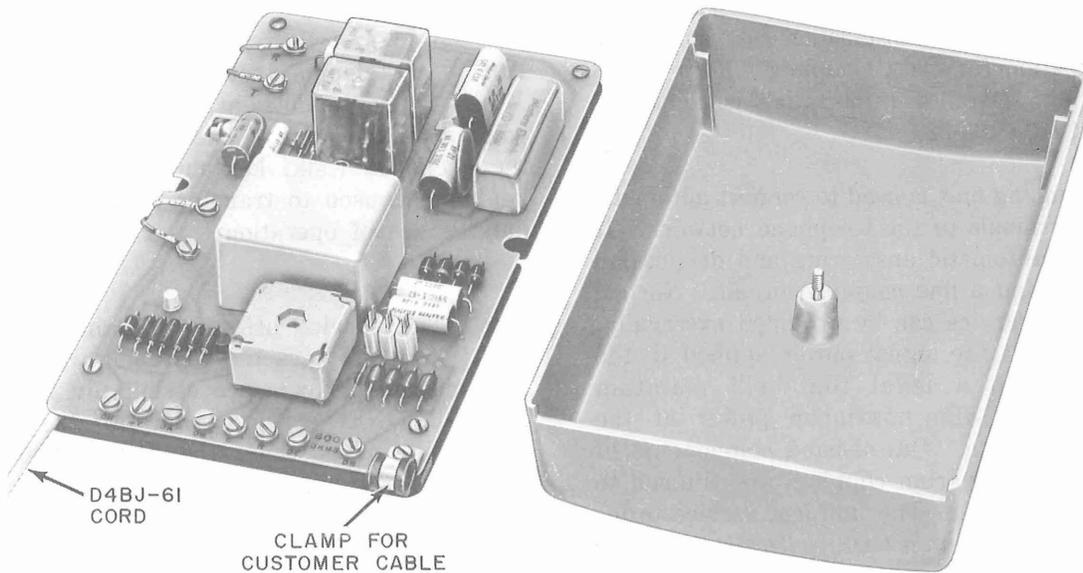

Fig. 2—Data Coupling Unit, Interior View
**2.02** The unit contains one printed circuit pack which contains the active circuitry for the unit. Eight screw terminals are provided for connecting the customer's apparatus. See Table A for the designation of each lead present at the interface terminals. A D4BJ-61 cord is included for connecting to the telephone line (Fig. 2). Terminals located on the circuit pack are strapped by the installer to adjust the clipping level of the unit.
**3.04** The unit and telephone set are connected in accordance with the wiring diagram in Fig. 5. Terminal location is shown in Fig. 6. A cable clamp (Fig. 2) is provided to serve as a strain relief for the customer cable.